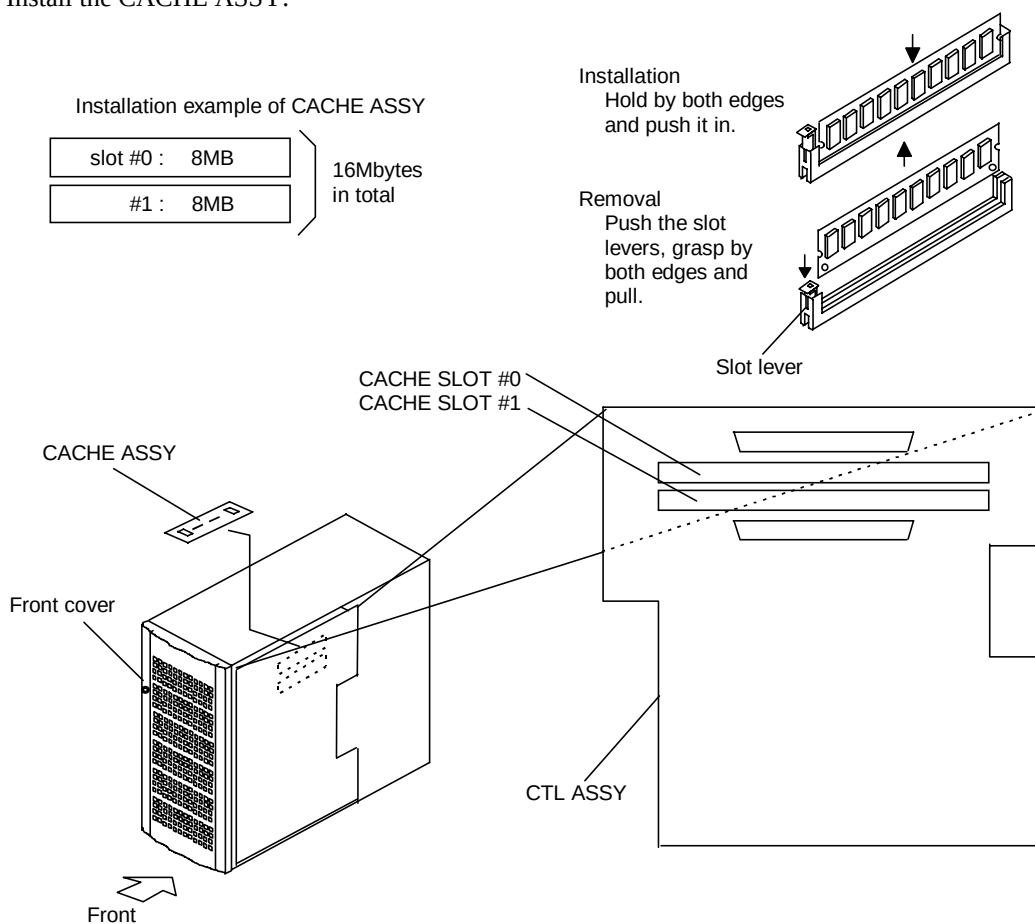

Figure 3.2.8 Setting CACHE ASSY
3.2.8 Setting CACHE ASSY (See Figure 3.2.8.)